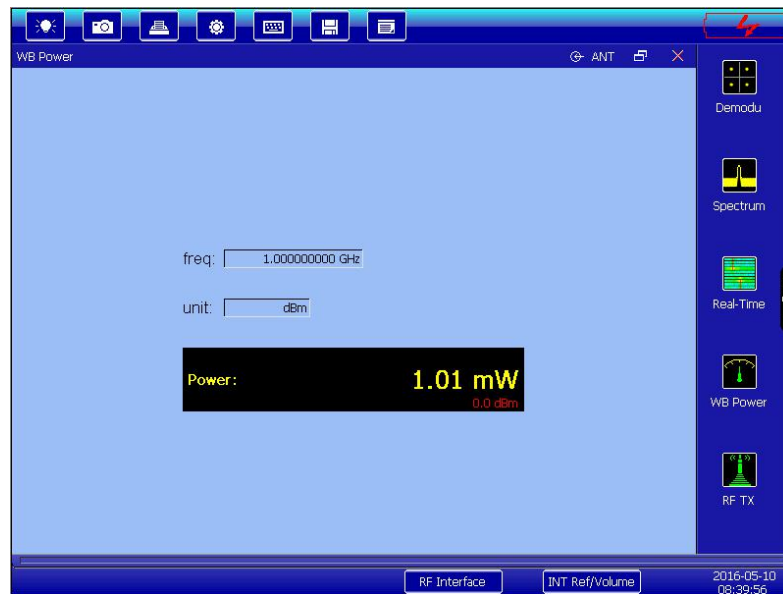

Fig. 4-8 Power measuring result
- 4) Click [freq] and [unit] for relevant setting on the lower part of the screen as per the input signal. After that, the power value of the signal under test can be seen, as shown in Fig. 4-8.